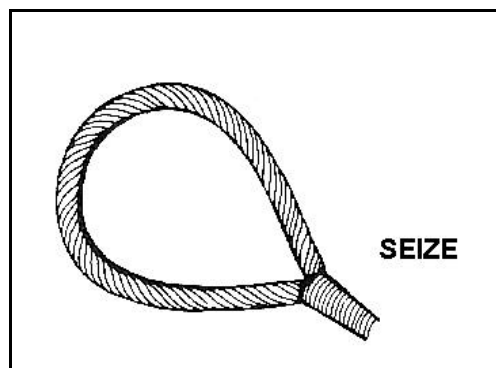

Figure 12-44. Making a Hasty Eye
- **Step 3.** After the strands have been laid back around each other and the eye has been formed, seize the wire to complete the splice (Figure 12-44).